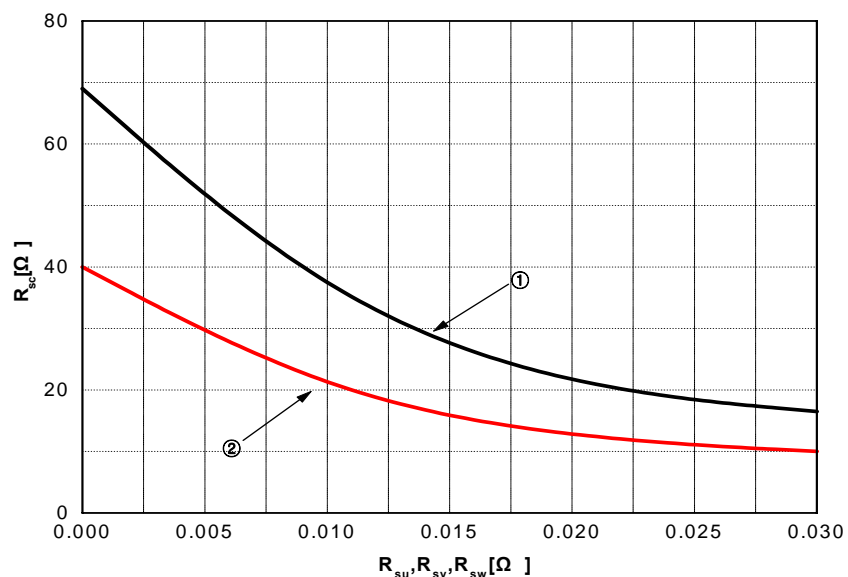

Fig. 6. R_{SC} Variation by change of Shunt Resistors (R_{SU} , R_{SV} , R_{SW}) for Short-Circuit Protection
- Short-circuit current protection is functioning only at the low-sides. It would be recommended that the value of the external sensing resistor (R_{SC}) should be selected around 40 Ω in order to make the SC trip-level of about 75A at the shunt resistors (R_{SU}, R_{SV}, R_{SW}) of 0Ω. For the detailed information about the relationship between the external sensing resistor (R_{SC}) and the shunt resistors (R_{SU}, R_{SV}, R_{SW}), please see Fig. 6.